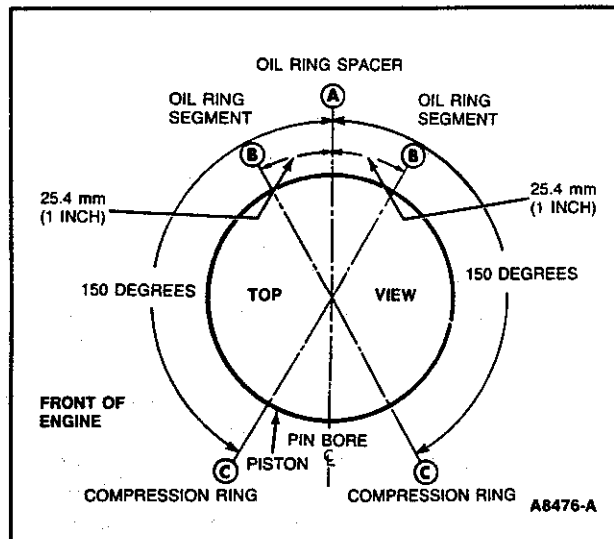

Figure 67 Piston Ring Spacing
3. Make sure that ring gaps are properly spaced around circumference of piston (Figure 67).